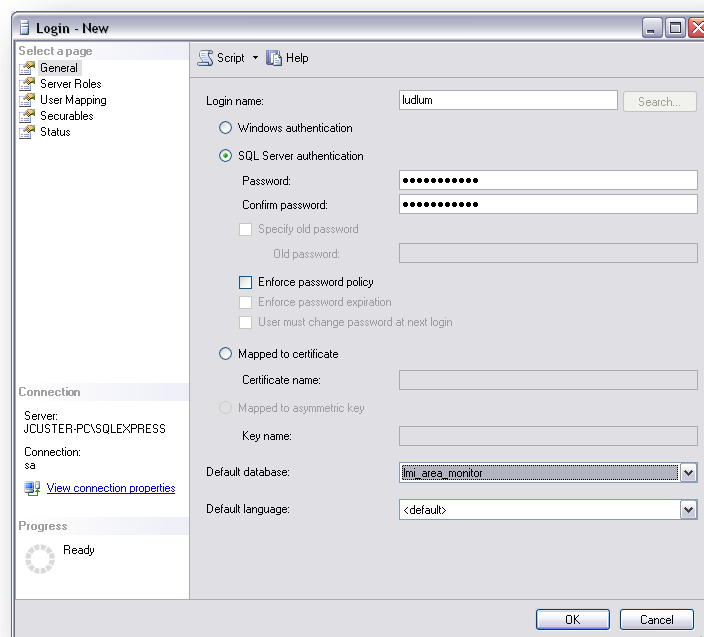

Figure 65 – New Login
3. The warning screen simply warns the user to make sure that the installer is running with Administrative privileges. If the installer is running with Administrative privileges, click “Next”. See Figure 65.